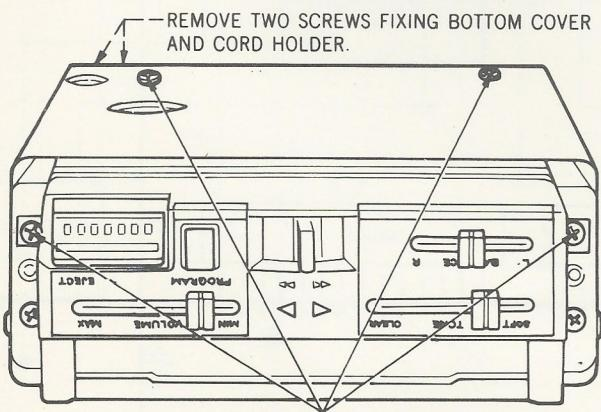

Fig. 6
3. Removal of bottom cover (See Fig. 6)